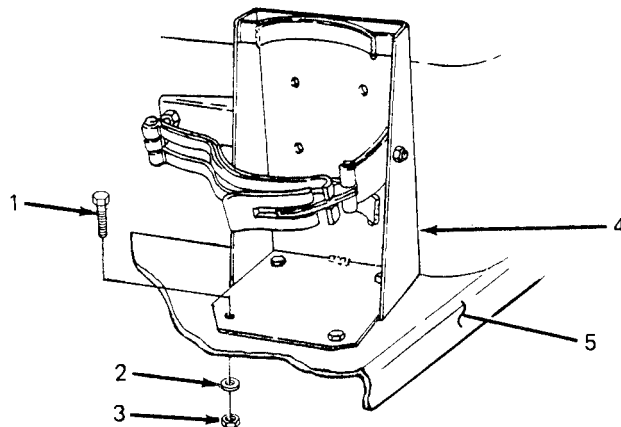

*Figure 4-6. Accessory Box Replacement.*
**4-18. Accessory Box Replacement.** (See figure 4-6). The accessory box is mounted to the trailer frame at the curbside front step.
- (1) Remove three screws (1, figure 4-6), three flat washers (2), and three nuts (3) securing accessory box (4) to trailer frame (5).
- (2) Slide accessory box (4) forward and off of front step (6).